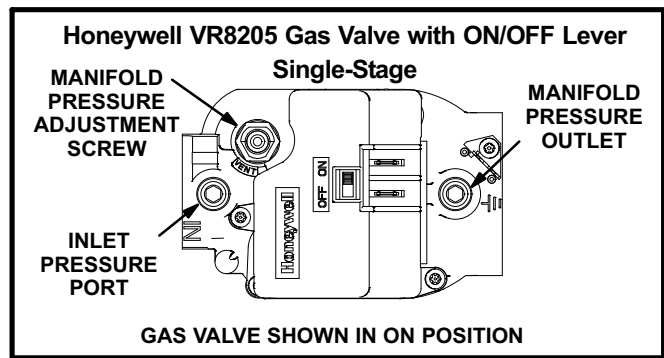

FIGURE 15
The Honeywell valve is adjustable for both low fire and high fire. Figures 15 and 16 show gas valve components. Table 9 shows factory gas valve regulation for LGH series units.
### Gas Valve Operation (figures 15 and 16)
- 5- Honeywell VR8205 Gas Valve with ON/OFF Lever - Switch gas valve lever to **OFF**. See figure 15.
- 6- Honeywell VR8205 Gas Valve with ON/OFF Lever - Switch gas valve lever to **ON**. See figure 15.